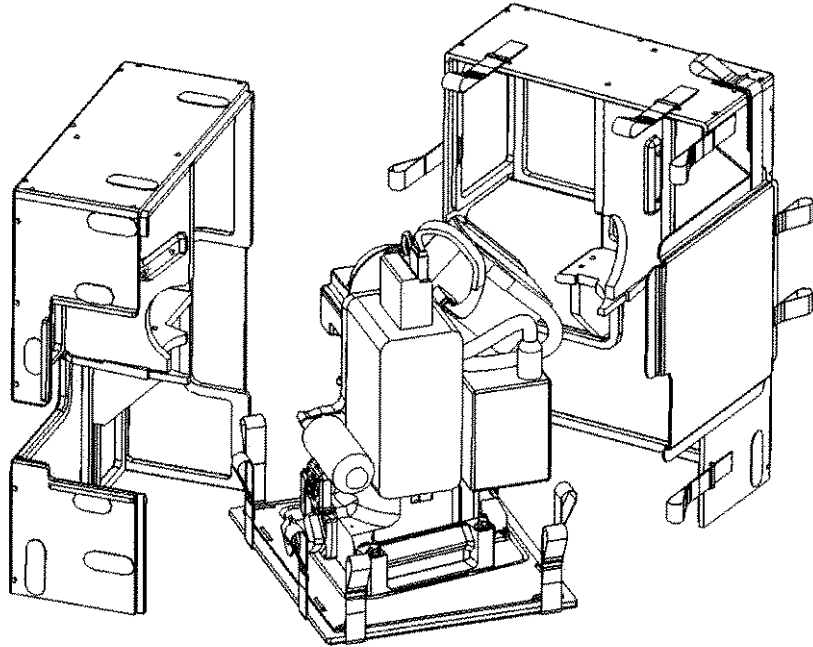

Figure 1
3. Open two shells to expose mounted CLPA on base plate and ORU interface (fig 1)